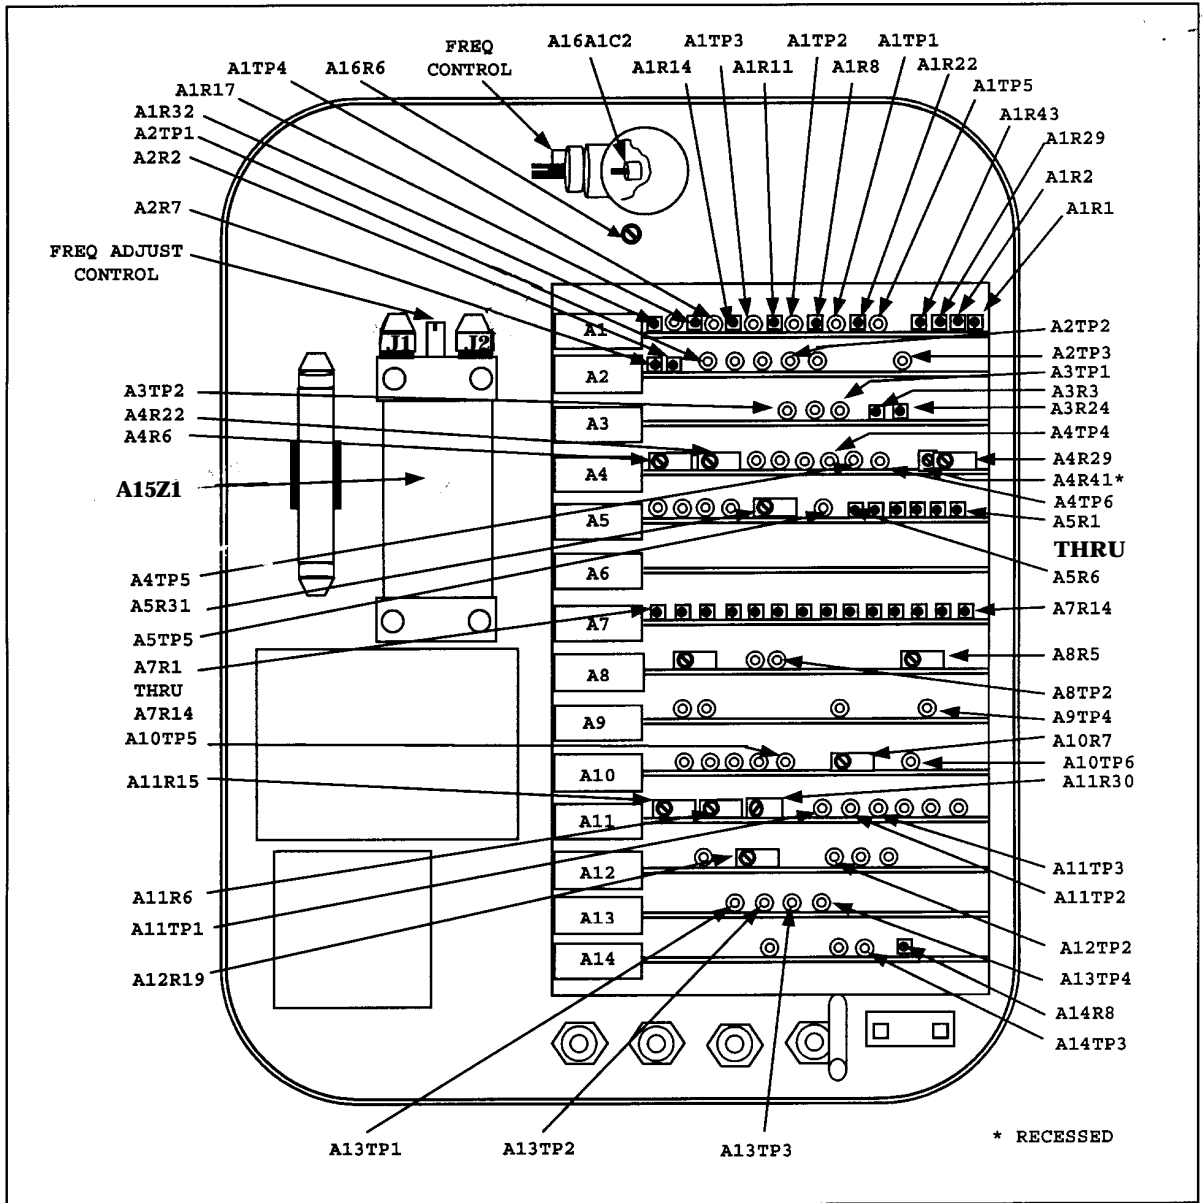
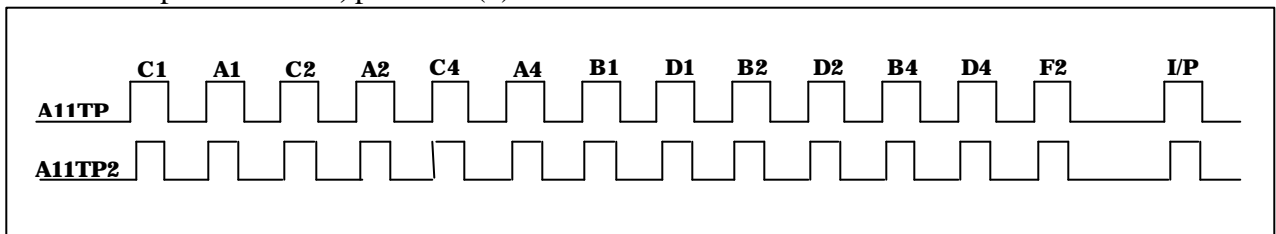

Figure 2. Test instrument adjustments and test points.
Figure 3. Comparison pulse position.
- (1) Install variable attenuator between RTS **Main RF I/O** connector and circulator **Port 1**. Set **Menu 11 RF** power to **0 dBm** and adjust variable attenuator for -9 dBm on peak power meter.
- (2) On **Menu 11** set **CW** to **OFF**.
- (3) Disconnect cable from peak power meter and reconnect to TI **Probe** connector. Adjust A8R5 (fig. 2) until **ACCEPT** light glows. Decrease RTS **RF** power by 1dBm. TI **REJECT** indicator will glow.
- (4) Remove variable attenuator and reconnect circulator to **MAIN RF I/O**.
(1) Disconnect cable from RTS oscilloscope **CH 1** to **DEMOD OUT** connector and connect oscilloscope **CH 1** (using X10 probe in RTS accessory kit) to test point A8TP2 of TI (fig. 2).
(2) On RTS select **Menu 10** and set **FREQUENCY** to **1090 MHz**.
(3) Loosen (slightly) locknut of TI **FREQ ADJ** control at preselector A15Z1 (fig. 2) and adjust **FREQ ADJ** control until displayed pulse is peaked (R).
(4) Retighten **FREQ ADJ** control locknut, while using a screwdriver to maintain a peaked pulse.
- (6) Loosen base plate of jack A15Z1J1 (fig. 2) and A15Z1J2 (fig. 2).
- (7) Remove jacks A15Z1J1 (fig. 2) and A15Z1J2 (fig. 2) from TI. Observe direction of each probe and mark position of one side on each jack.
- (8) Replace each jack and fasten A15Z1J1 (fig. 2) in position (mark pointing at **FREQ ADJ CONTROL**).
- (9) Position jack A15Z1J2 (fig. 2) using mark approximately 10 degrees from A15Z1J1 (fig. 2) mark. Fasten A15Z1J2 (fig. 2) in position.
- (10) Perform **a**(1), (2), and (4) above.
- (11) If the bandwidth is too broad, rotate the mark on jack A15Z1J2 (fig. 2) slightly toward mark on jack A15Z1J1 (fig. 2). If bandwidth is too narrow, adjust it slightly away from mark at A15Z1J1 (fig. 2).
- (12) Fasten jack A15Z1J1 (fig. 2) by replacing baseplate.
- (13) Determine bandwidth as described in **a**(1), (2), and (4) above. If necessary, repeat (11) and (12) above.
- (1) Disconnect cable from RTS oscilloscope **CH 1** and **DEMOD OUT** connector and connect X10 oscilloscope probe from **CH 1** to test point A10TP5 (fig. 2).
- (2) Connect second X10 probe (also from RTS kit) from oscilloscope **CH 2** to test point A4TP6 (fig 2).
- (3) Press oscilloscope **AUTO-SCALE** button and adjust **TIME/DIV** switch to **1 ms**. Delay from leading edge of second pulse on **CH 2** to trailing edge of pulse on **CH 1** should be between 1.6 and 2.0 μ s; if not, perform **b** below.
- (4) Disconnect oscilloscope **CH 1** probe from A10TP5 and connect to test point A8TP2 (fig. 2).
(5) Disconnect oscilloscope **CH 2** probe from A4TP6 and connect to test point A9TP4 (fig. 2).
(6) Press oscilloscope **AUTO-SCALE** button once again and adjust **TIME/DIV** switch to **2 ms**. Delay between leading edge of last pulse on **CH 1** and trailing edge of pulse on **CH 2** will not exceed $6\ \mu\text{s}$.
b. Adjustments. Adjust test instrument video enable delay control A10R7 (fig. 2) until delay from leading edge of second pulse on **CH 1** to trailing edge of pulse on **CH 2** is $1.8\ \mu\text{s}$ (R).
(1) Disconnect oscilloscope probes from test points A8TP2 and A9TP4 (fig. 2). Connect **CH 1** probe to test point A11TP1 (fig. 2).
(2) Adjust oscilloscope **TIME/DIV** switch to **100 ns**, **TRIGGER SOURCE** to **CH 1**, and **HORIZONTAL POSITION** control to position pulse on **CH 1** for a pulse width measurement. If video pulse width is not between 0.65 and $0.7\ \mu\text{s}$, perform **b(1)** below.
(3) Disconnect oscilloscope **CH 1** probe from test point A11TP1 (fig. 2) and connect it to A11TP2 (fig. 2). If width of comparison pulse is not between 0.49 and $0.51\ \mu\text{s}$, perform **b(2)** below.
(1) Adjust control A11R6 (fig. 2) until pulse width is $0.675\ \mu\text{s}$ (R).
(2) Adjust control A11R15 (fig. 2) until pulse width is $0.5\ \mu\text{s}$ (R).
(1) Disconnect oscilloscope **CH 1** probe from test point A11TP2 (fig. 2) and connect it to test point A11TP1 (fig. 2).
(2) Connect oscilloscope **CH 2** probe to test point A11TP2 (fig. 2).